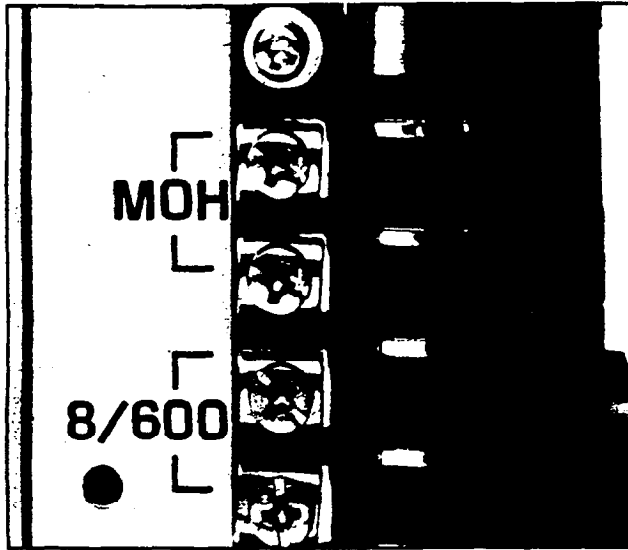

FIGURE 4
06.01 The external page output appears at the terminals labeled 8/600 on the MKSU right side panel (Figure 4). The output impedance can be selected to be either 8Ω or 600Ω, and is factory-set for 600Ω. In the 600Ω mode an external PA